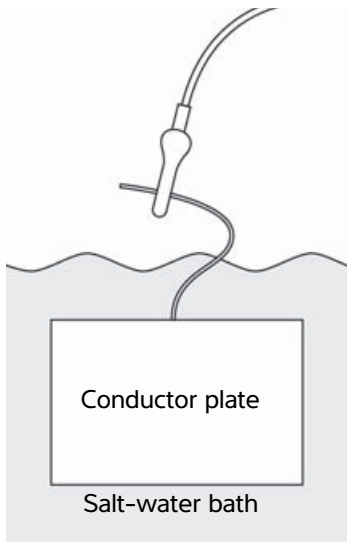

Figure 5-16 Conductor plate attachment
- a Connect the black lead to the conductor plate in the salt-water bath as shown in Figure 5-16.